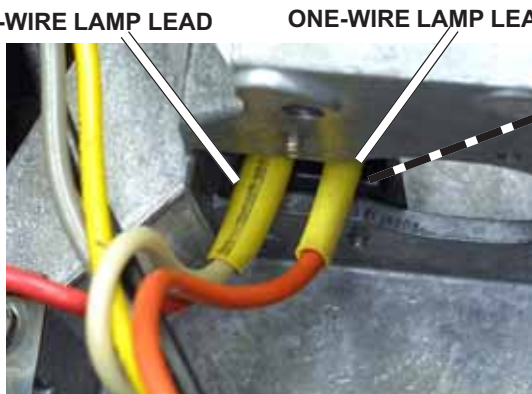

FIG. D26 Unplug the lamp leads.
11. Pull off the red and white lamp leads, Fig. D26. One lamp lead has two wires—one red and one white. The yellow insulator normally falls off when you disconnect this lead. The insulator on the red-wire lead (the lead with just one wire) normally stays with the wire.